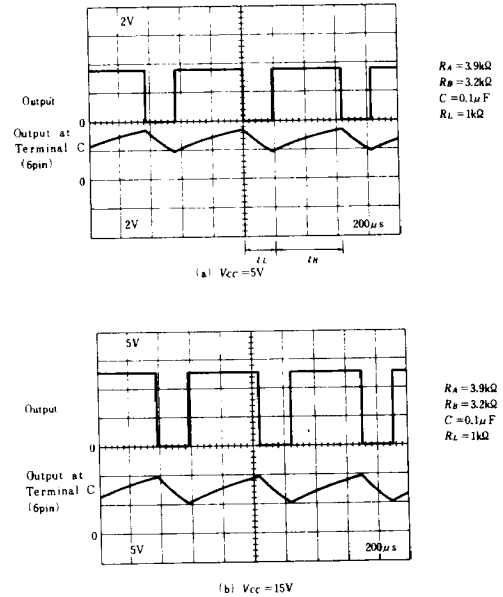

Fig.5 Operation Waveform of Astable Circuit
Capacitor C is charged through  $R_A$  and  $R_B$ , discharged through  $R_B$  in this circuit. Therefore, duty cycle can be controlled by  $R_A$  and  $R_B$ . In Fig. 4, capacitor C charges and discharges between threshold voltage (about 0.67  $V_{CC}$ ) and trigger voltage level (about 0.33  $V_{CC}$ ). Fig. 5 shows a typical example of astable operation. In this figure, time ( $t_H$ ) when output is "High" level, time ( $t_L$ ) when output is "Low", oscillation frequency (f) and duty cycle (D) are calculated as follows;